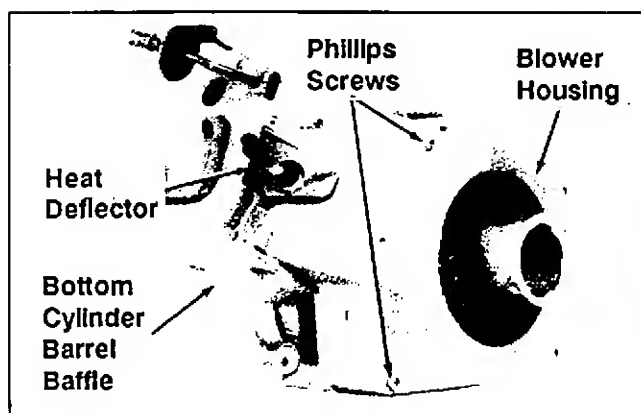

Figure 11-25. Installing Blower Housing And Baffle.
1. See Figures 11-25 and 11-26. Install the blower housing using Phillips head screws in the locations shown in Figure 11-25.